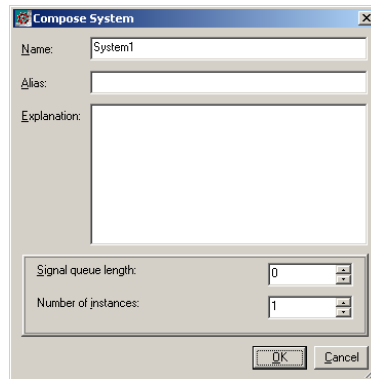

Figure 82: Compose System dialog box
- 3 In the Compose System dialog box displayed, specify signal queue length. See *Figure 82*, page 102.